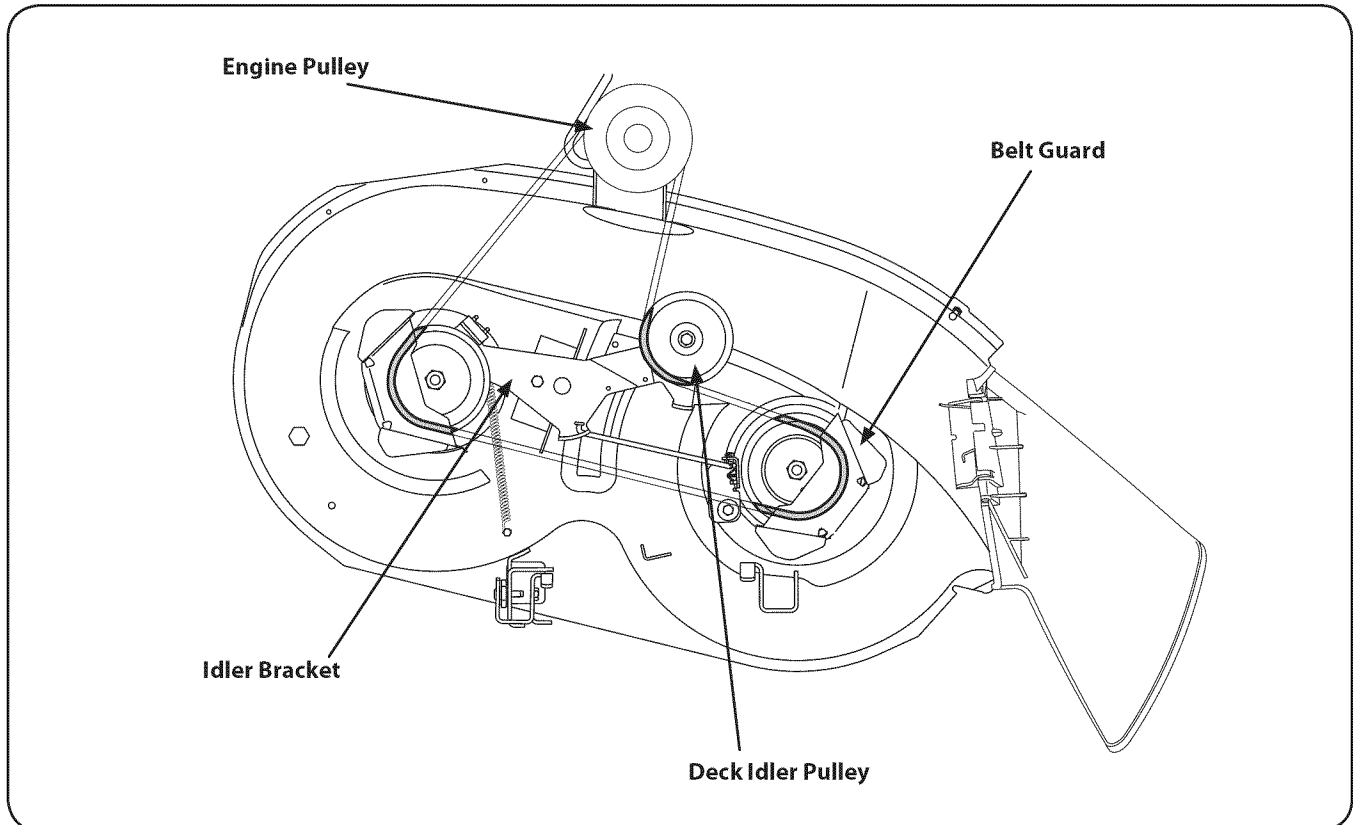

Figure 7-7
2. Remove the belt guards by removing the self-tapping screws that fasten them to the deck. See Fig. 7-7.
6. Route the new belt as shown in and Fig. 7-7.